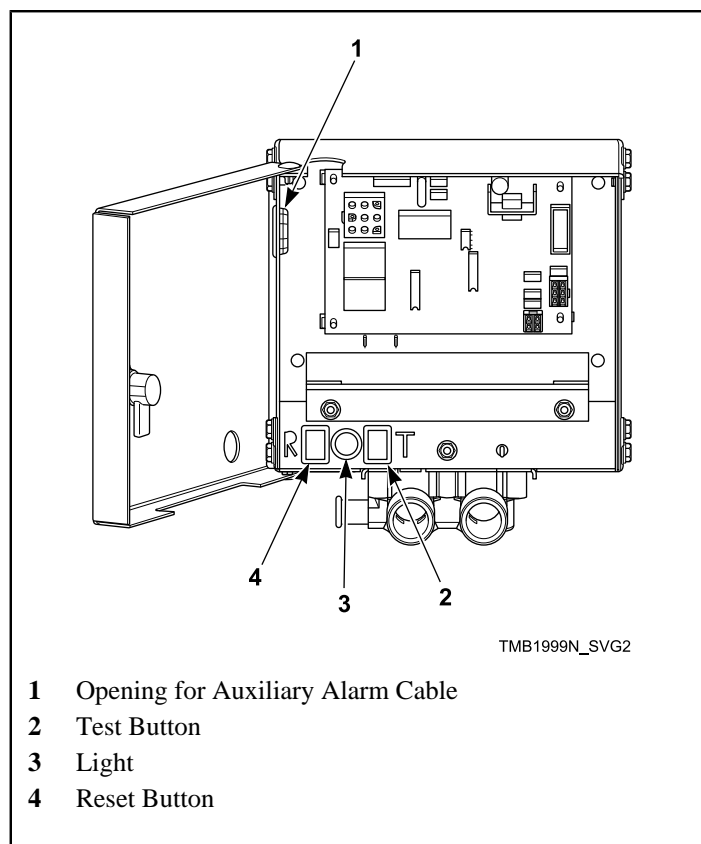
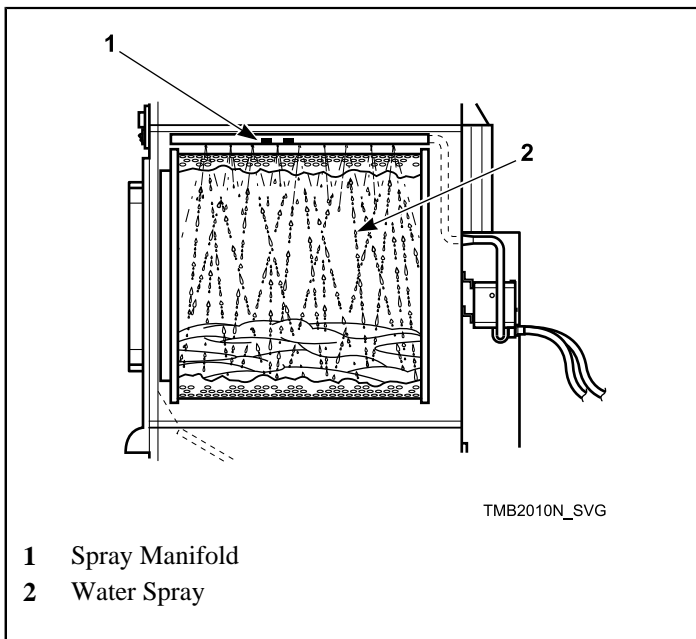

Figure 47
Figure 48
6. Press and hold the test button, verify the light is on, this should take approximately five seconds. Refer to *Figure 47*. After a one-second pause water should begin to spray into the cylinder.
7. After 15 seconds of water spray, press and hold the reset button until water spray is off and light is off. This should take approximately one second. Refer to *Figure 47* and *Figure 48*.